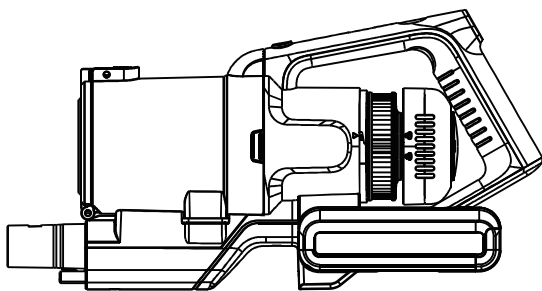
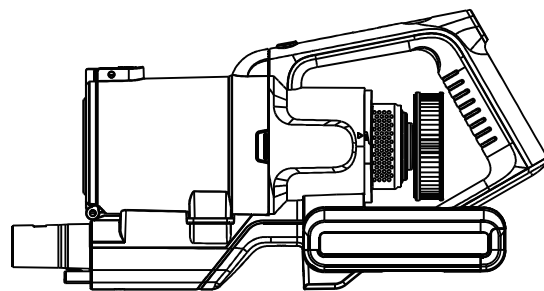

Fig. 19
Fig. 20
7. To clean or replace the exhaust filter, turn the cover anticlockwise and lift off the cover (fig. 19), remove the filter (fig. 20), shake off debris, rinse under water once a month, allow to dry fully before refit.
2. Remove the floor head from the cleaner (fig. 19).
3. Push the small lever at the side of the brush in the direction of the front of the floor head and lift off the retaining plate (fig. 20).